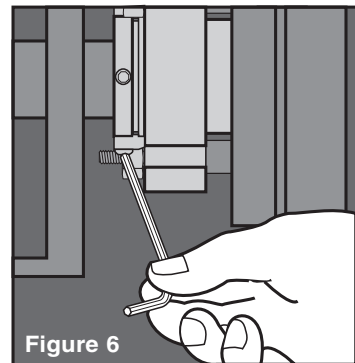

Figure 6
- 6.9 **Caution: Remove the centering tabs** (CT) from the sleeve collar. See Figure 6. Save the tabs and fasteners for future use when the